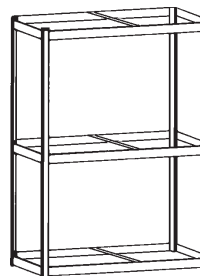

FIG. 3
- Determine the shelf spacing. Insert each Double Rivet Beam into keyhole (flange up) for both front/back and side supports. Bolt 1 Shelf Deck Support from front to back in the center of unit (if applicable). See Figure 3.
- Determine the spacing. Insert each Double Rivet Channel or Heavy Duty Channel Beam, Front & Back Supports, into keyholes. Insert each Double Rivet Beam side supports into keyholes (flange up). Bolt 1 Shelf Deck Support from front to back in center of unit. See figure 3.